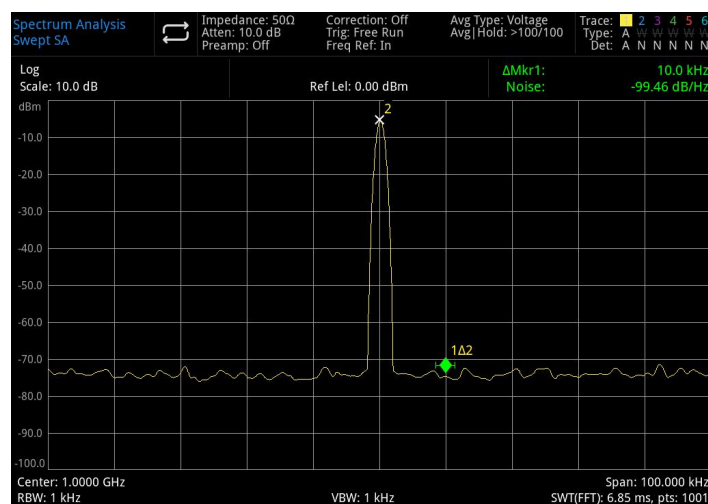

Figure 3-20 Phase Noise
- 7 Open **marker function >mark noise**, as shown in Figure 3-20: